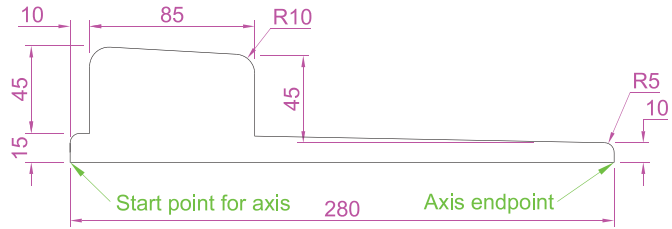

Fig. 12.19 First example – **Revolve**. The closed pline
1. Construct the closed polyline shown in Fig. 12.19.